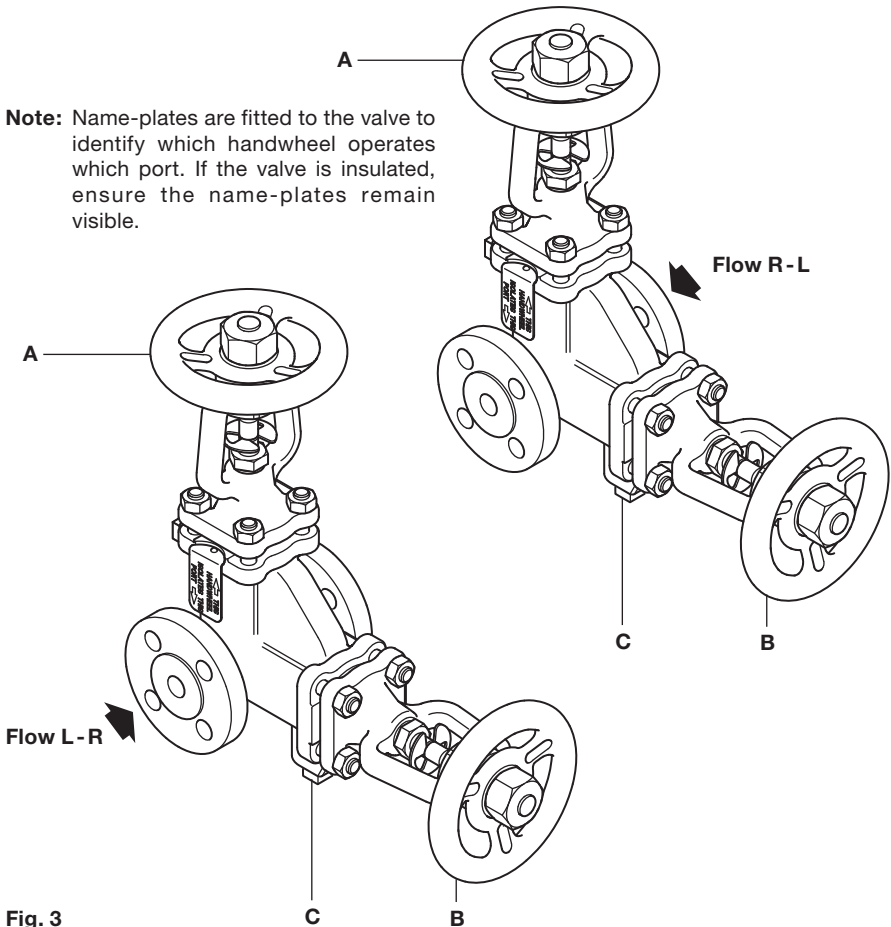

Fig. 3
5.4 A Valve Integrity Test must be undertaken prior to each double isolation of the system. Refer to Figure 3 and the Table below for correct sequence of operation.
5.5 Before undertaking any maintenance of plant downstream of the valve both handwheels should be isolated. Refer to Figure 3 and the Table below for the correct sequence of handwheel operation.